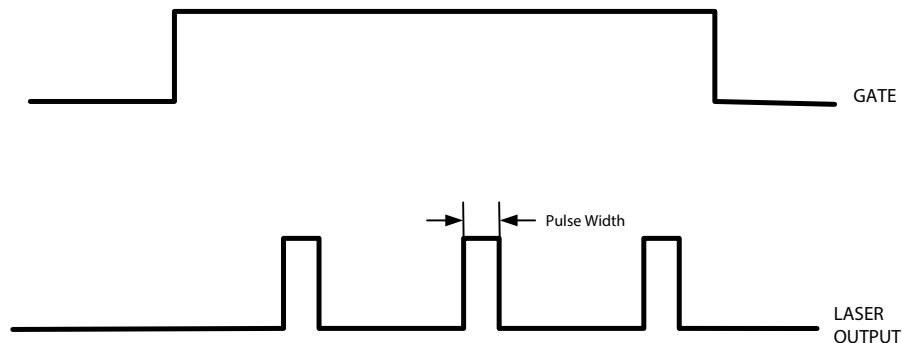

Figure 5-13. Gated Mode
Gated Mode enables pulsing by applying a TTL signal externally through the Gate 1 port on the rear of the laser head. (See “Gate 1 and Gate 2” (p. 35)). As in Continuous Mode the amplifier repetition rate can be selected through the Coherent GUI Main menu or through the serial command SET. In Gated Mode, TTL high enables output pulses and TTL low inhibits output pulses (see Figure 5-13). To utilize Gated Mode the Enable External Gate button is selected from the GUI Triggering menu (see Figure 5-4 on page 48), or by entering the serial command PM=1.
The Monaco laser can emit a number (1–1,000,000) of laser pulses (or seeder bursts) in a burst configuration at a specified repetition rate. In Process Burst Mode the number of pulses emitted in a burst is controlled by the Burst Pulses (BP) setting. To utilize Process Burst Mode the External Triggering and Process Burst Mode buttons are selected from the Triggering Menu (see “Triggering Tab Selections” (p. 48)), or by entering the serial command PM=4. The repetition rate and the number of pulses in a process burst can be specified using the Coherent GUI, or through the serial command SET and BP, respectively. Each process burst is initiated by the transition from TTL low to TTL high similar to Gated Mode shown in Figure 5-13. The process burst will continue until the specified number of pulses is generated if the Gate 1 signal (see “Laser Head Features Drawing” (p. 75)) remains TTL high. A process burst can be shortened by a transition from TTL high back to TTL low. If a process burst is allowed to continue for the specified number of pulses, the Gate 1 signal must be reset from TTL high to TTL low before initiating the next burst.